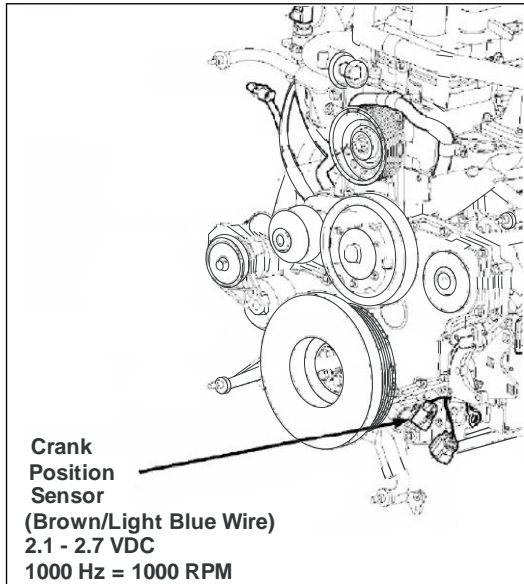

Figure 38 – Crank Position Sensor Location
- Locate the crank position sensor on the front of the bottom driver side of the engine (Figure 38).